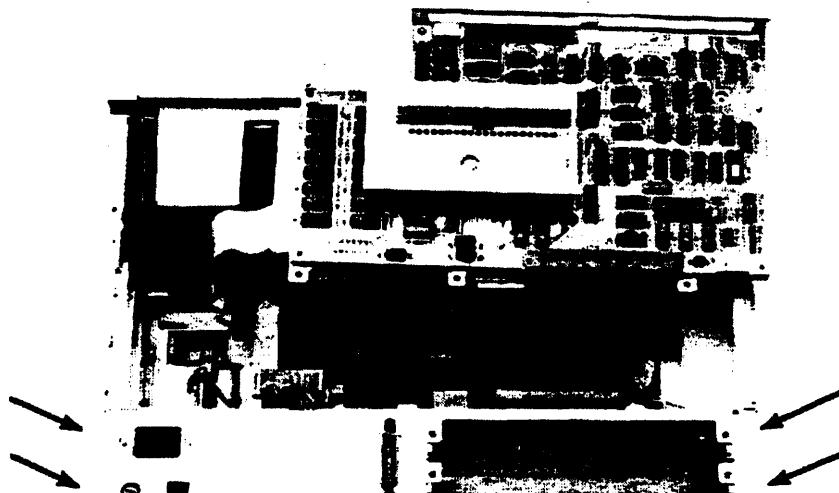

Figure 6-29b. Base Assembly Mounting Screws
12. Set the PCA mounting panel assembly in a secure location on top of the computer case as shown in figure 6-29b.
13. Remove the four flat-head screws that hold the base assembly to the side supports (see figure 6-29b).